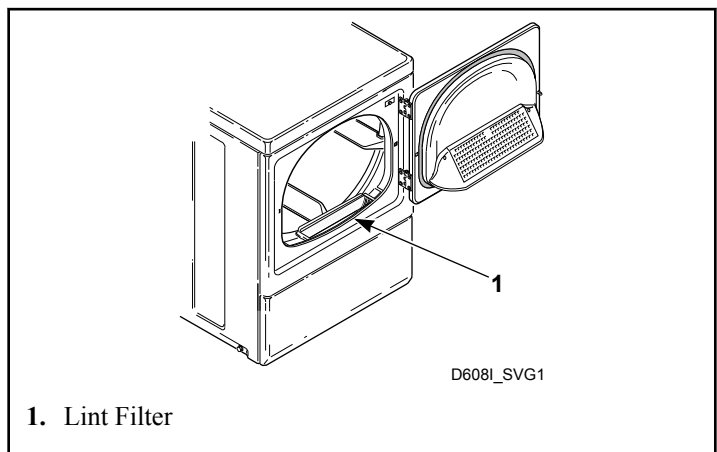

Figure 30
**CLEAN THE LINT FILTER BEFORE DRYING EACH LOAD.** (Refer to *Figure 30* for lint filter location.) Cleaning the lint filter is important because a layer or pad of lint on the filter will block the flow of air through the dryer, thus reducing the efficiency of the dryer. The clothes will take longer to dry and energy will be wasted.